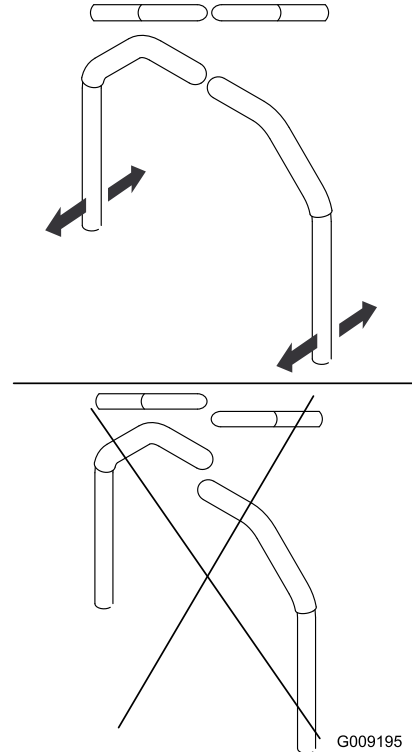

Figure 47
9. Align the levers in the front-to-rear position by bringing the levers together to the NEUTRAL position, and slide them until they are aligned, then tighten the bolts (Figure 47).